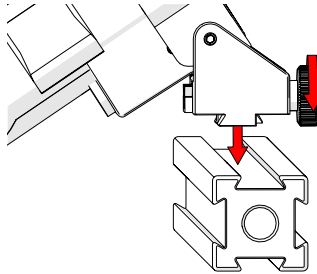

Fig. 256 - Mount on frame bar
1. Loosen the battery powered optical guide knob (Fig. 256) and mount the optical guide to the frame bar.